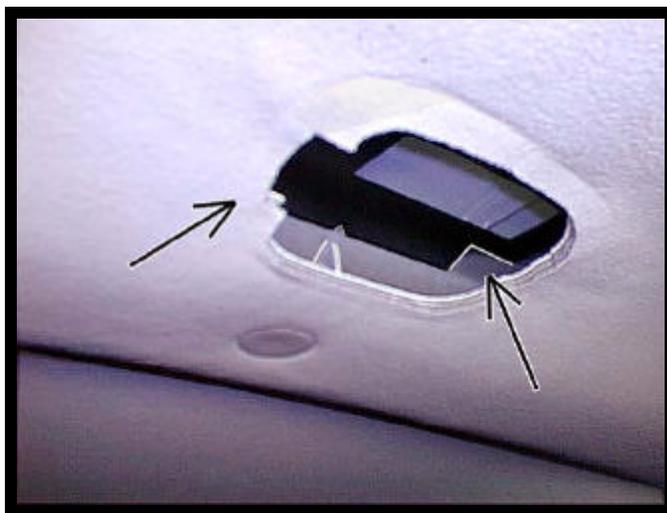

FIGURE 4
4. Install mounting bracket (item 6 pg. 2) with the bent edges upward. Slide bracket rearward until rear tabs engage rear O.E. roof brace. Align notches in bracket with center lines scribed on roof. See Fig. 3 and Fig. 4.
5. Secure front of bracket to front roof brace using (2) two # 10 X 1/2" screws (item 1 pg 2).
6. Make sure tabs on mounting bracket engage O.E. roof brace and notch aligns with center line. See Figure 4.